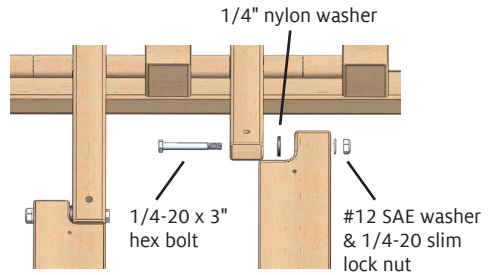

FIGURE 3: ATTACH TREADLES TO TREADLE EXTENSIONS
3. Attach the treadles to treadle extensions: Identify the left and right treadles (Figure 3). Insert a 1/4-20 x 3" hex bolt through one treadle from its inner side, as shown in Figure 3. Add a 1/4" nylon washer to the shaft of the bolt, insert through the treadle, and add a #12 SAE washer. Secure with a 1/4-20 slim lock nut, tightening them and then loosening a quarter turn. Repeat with the remaining treadle and treadle extension.